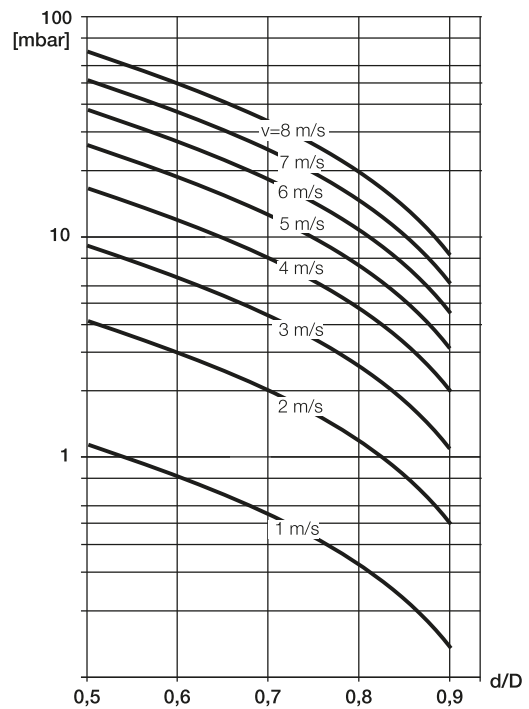

Figure 27 Flow rate nomogram for pressure drop calculations for flange transition piece with  $\alpha/2 = 8^\circ$
2. Determine the flow velocity based on the flow rate nomogram (Figure 27).
3. Read the pressure drop on the Y-axis in Figure 27.